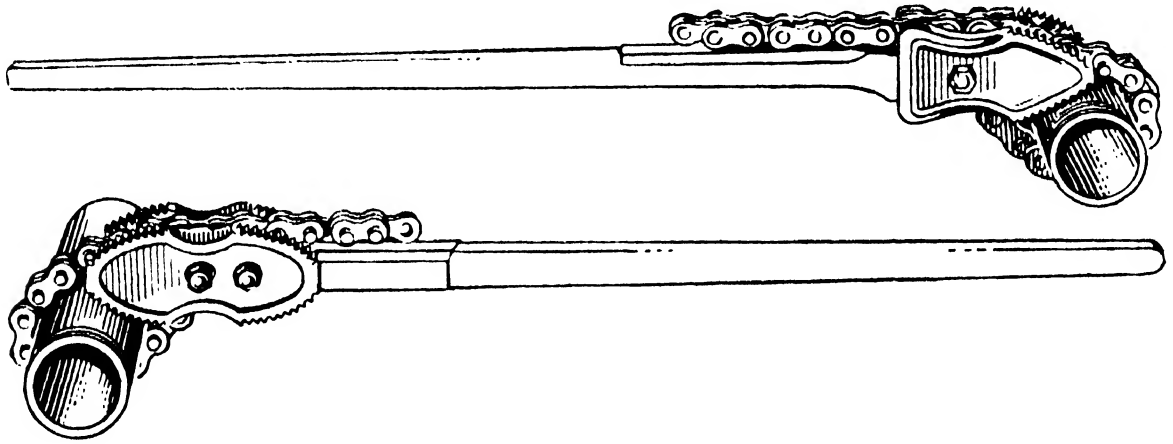

FIG. 97.—The Vulcan Chain Pipe Wrenches.
**Chain Pipe Grips.**—The Vulcan chain grips, as they are commonly called, are well up to their title. They are without question the most powerful pipe wrench on the market, and the two models are illustrated in Fig. 97. The tool rarely ever crushes a pipe of good make, because the line of the teeth is tangential and conforms with the encircling grip of the chain. If a pipe gets indented by this tool, probably the cause will be found in the fixing of the grips when too long a chain is allowed, and the nose of the jaws digs in almost at right angles. The Vulcan wrenches have a wide range, especially those of the larger sizes but, like the Stillson wrenches, their weight precludes them from being handy on the smaller pipes. There is really no outstanding feature that can be claimed for one